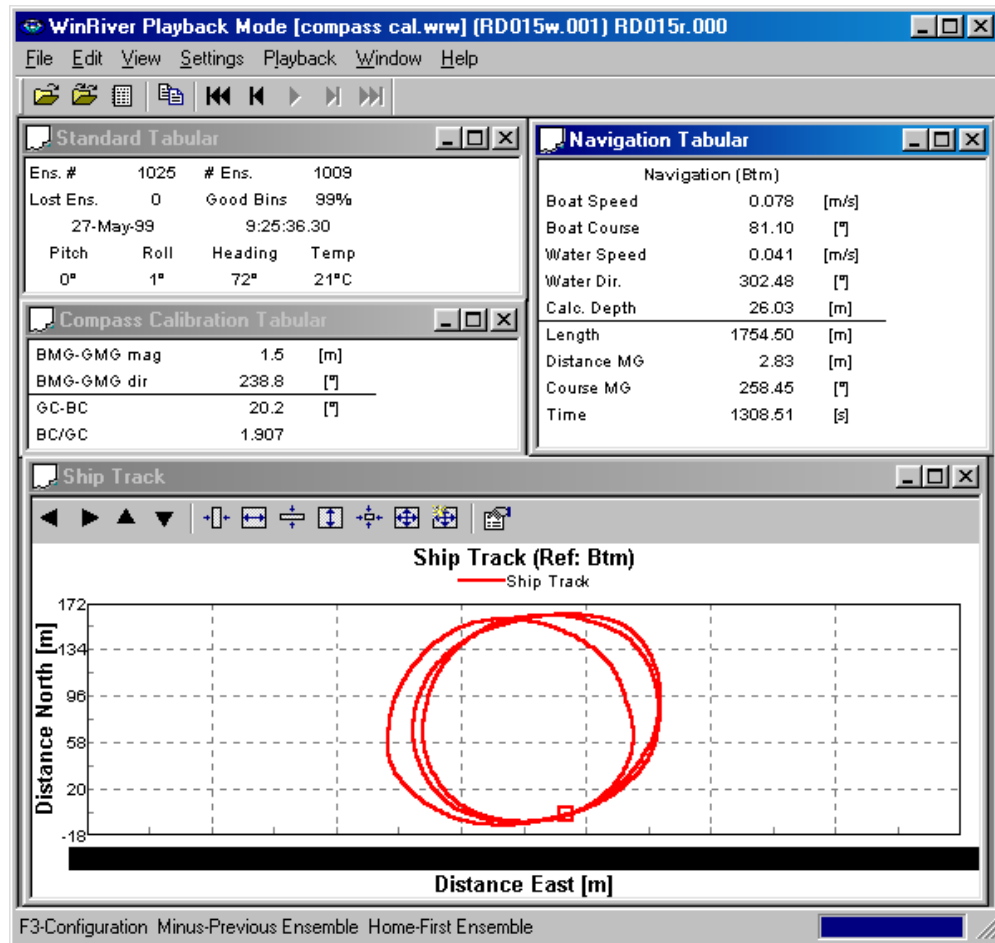

Figure 33. Method 1 Compass Correction Procedure with Correction Applied
- m. Start *WinRiver* in the Playback mode and replay the data using the corrected configuration file. The circle non-closure error as indicated by **Distance MG** should now be minimized (Figure 33, page 65). If the compass has been adequately corrected, the ratio of **Distance MG** to **Length** should be 0.01 or less ($2.83/1754.50 = 0.0016$).